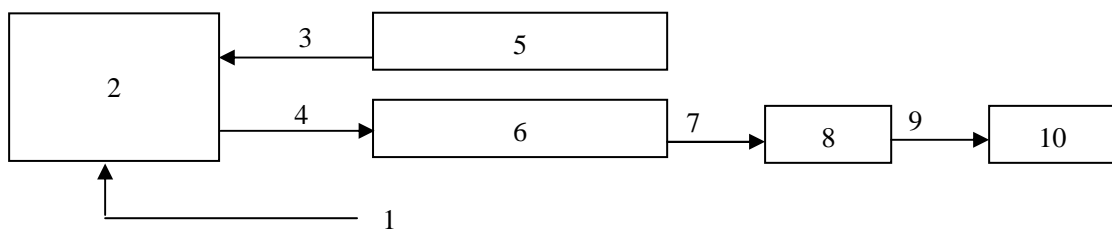

Fig. 3-2 Circuit Diagram
a) For ash test or moisture test by air supplying, the installation of the air supply system of the combustion furnace based on the circuit is shown in Fig.3-2: